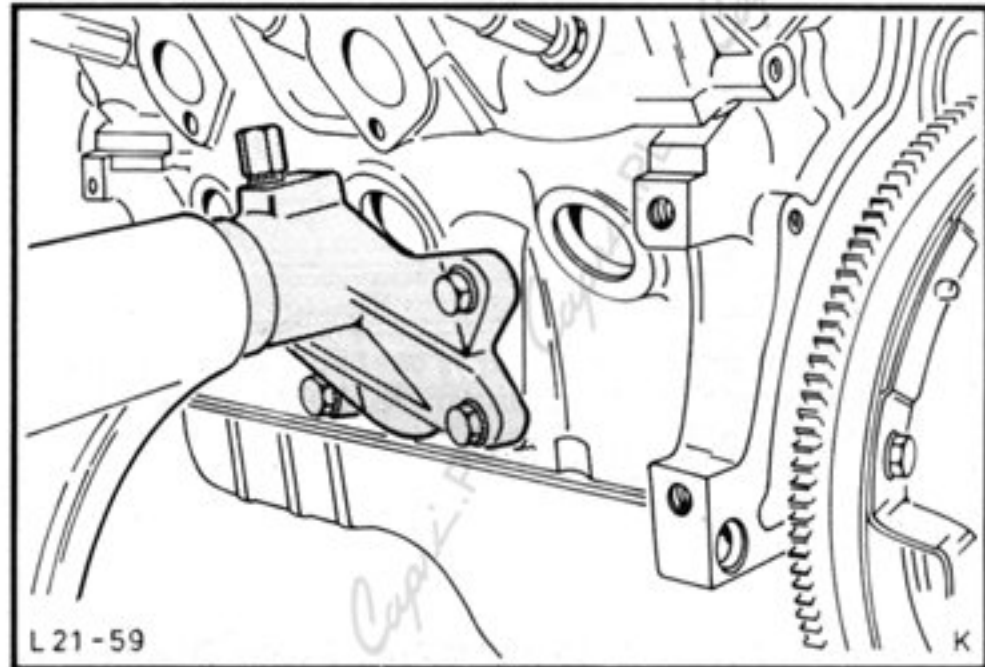

Fig.24. Fix engine on engine stand with engine mounting bracket 21-064.
1. Remove left-hand exhaust manifold. Fix engine, with engine mounting bracket 21-064 and universal spindle 21-023, to the engine stand, Fig.24.